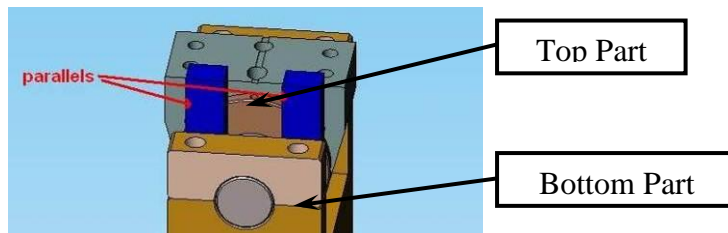

Figure 42: Using Shims to make sure the Bottom Part of the Locker is parallel to the Top Part
- Use shims as shown on Figure 42 to make sure that the bottom part of the Locker and the top part are parallel to each other.